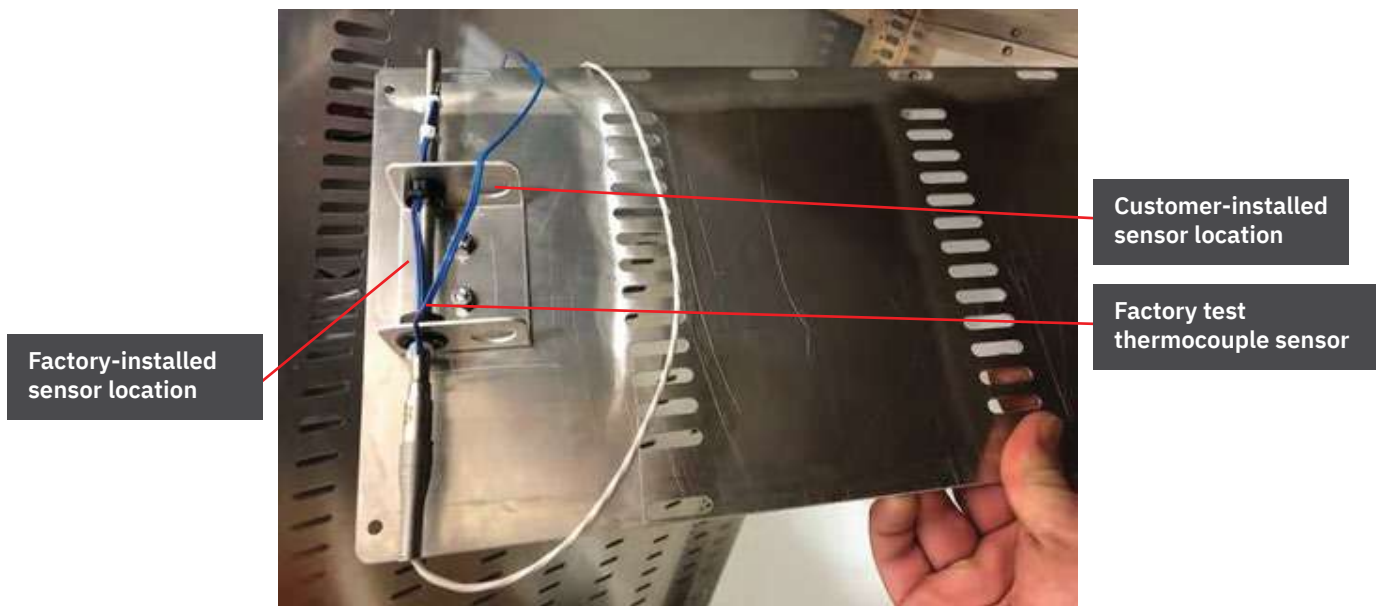

Figure 10: Sensors installed in the sensor mount
11. After removing the sensor mounting plate, install the sensor using the instructions provided for that sensor. Refer to Figure 10 for examples of installed sensors.